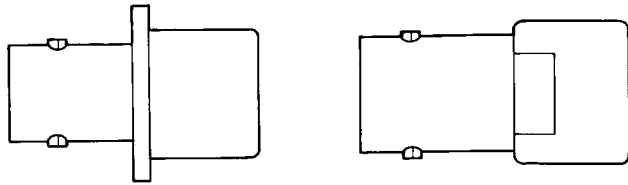

Figure 23. Typical MHV Series Connector
53. **Series MHV Connectors.** These connectors are high voltage, flange mount, bayonet coupled connectors (Figure 23).